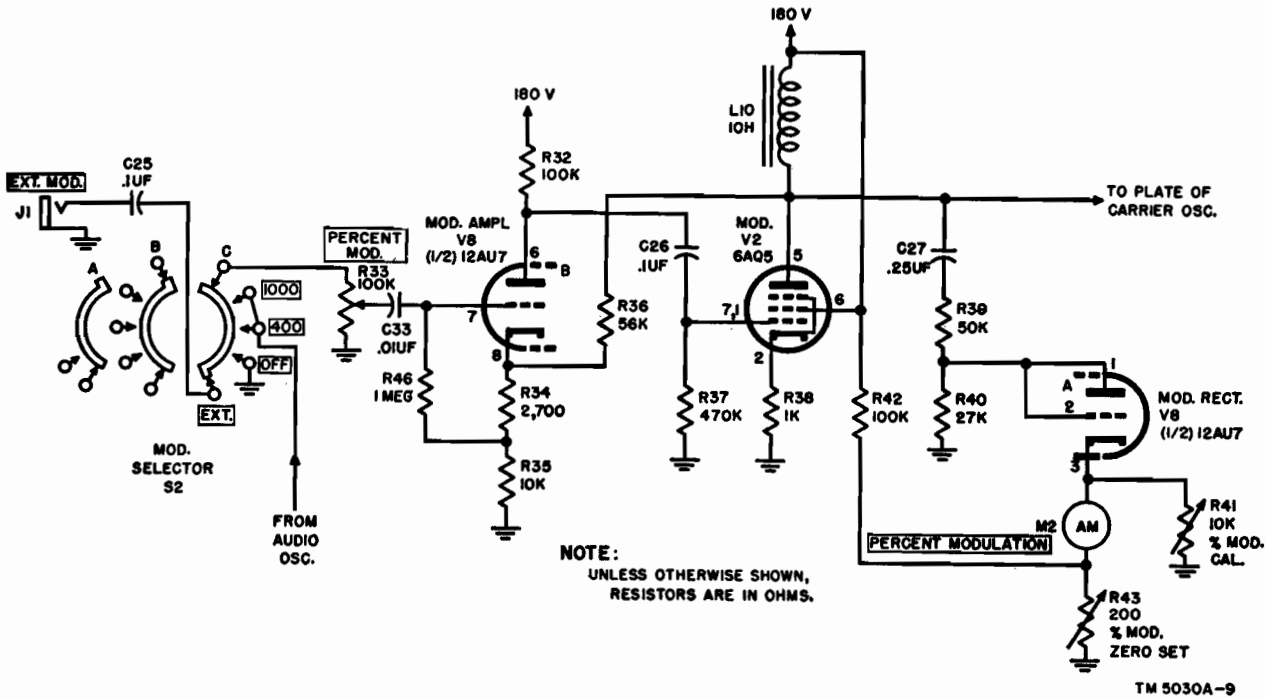

Figure 12. Sine-wave modulator schematic.
(fig. 12)
c. A portion of the output of V2 (fig. 12) is fed back through R36 to the cathode of V8B. This negative feedback reduces the amount of distortion in the modulator.